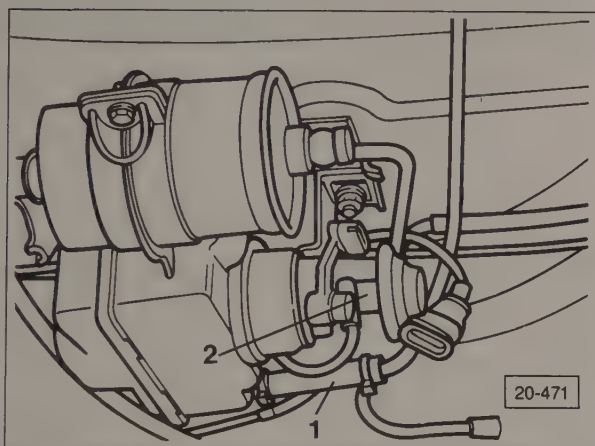

Fig. 4-13. Fuel pump and filter used with CIS and CIS-E. Pinch shut fuel supply line from transfer pump **1** and remove cap nut **2** to drain fuel.
3. Temporarily pinch shut the supply line that comes from the transfer pump to the fuel reservoir. See Fig. 4-13 or Fig. 4-14. Place a large container beneath the fuel reservoir for catching fuel.